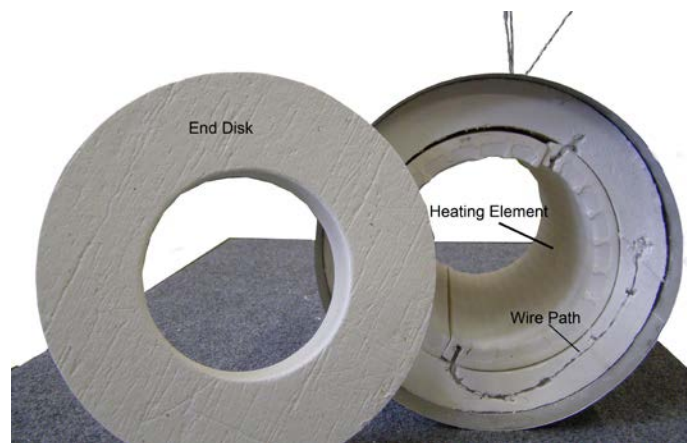

Figure G.2 - End View of ATS Series 3110 Tube Furnace
7. Place the wires to maintain the maximum distance between them. Carefully position the element in place. Align any ports if applicable. Refer to Figure G.2.